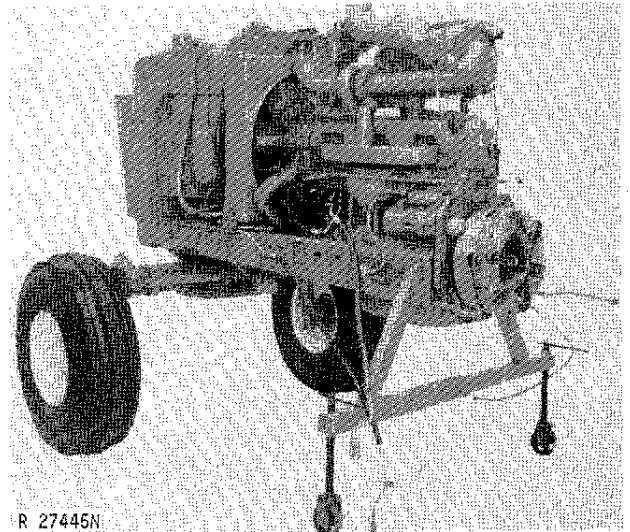

Fig. 35-Engine Separated From Clutch Housing
38. Separate engine from clutch housing (Fig. 35)